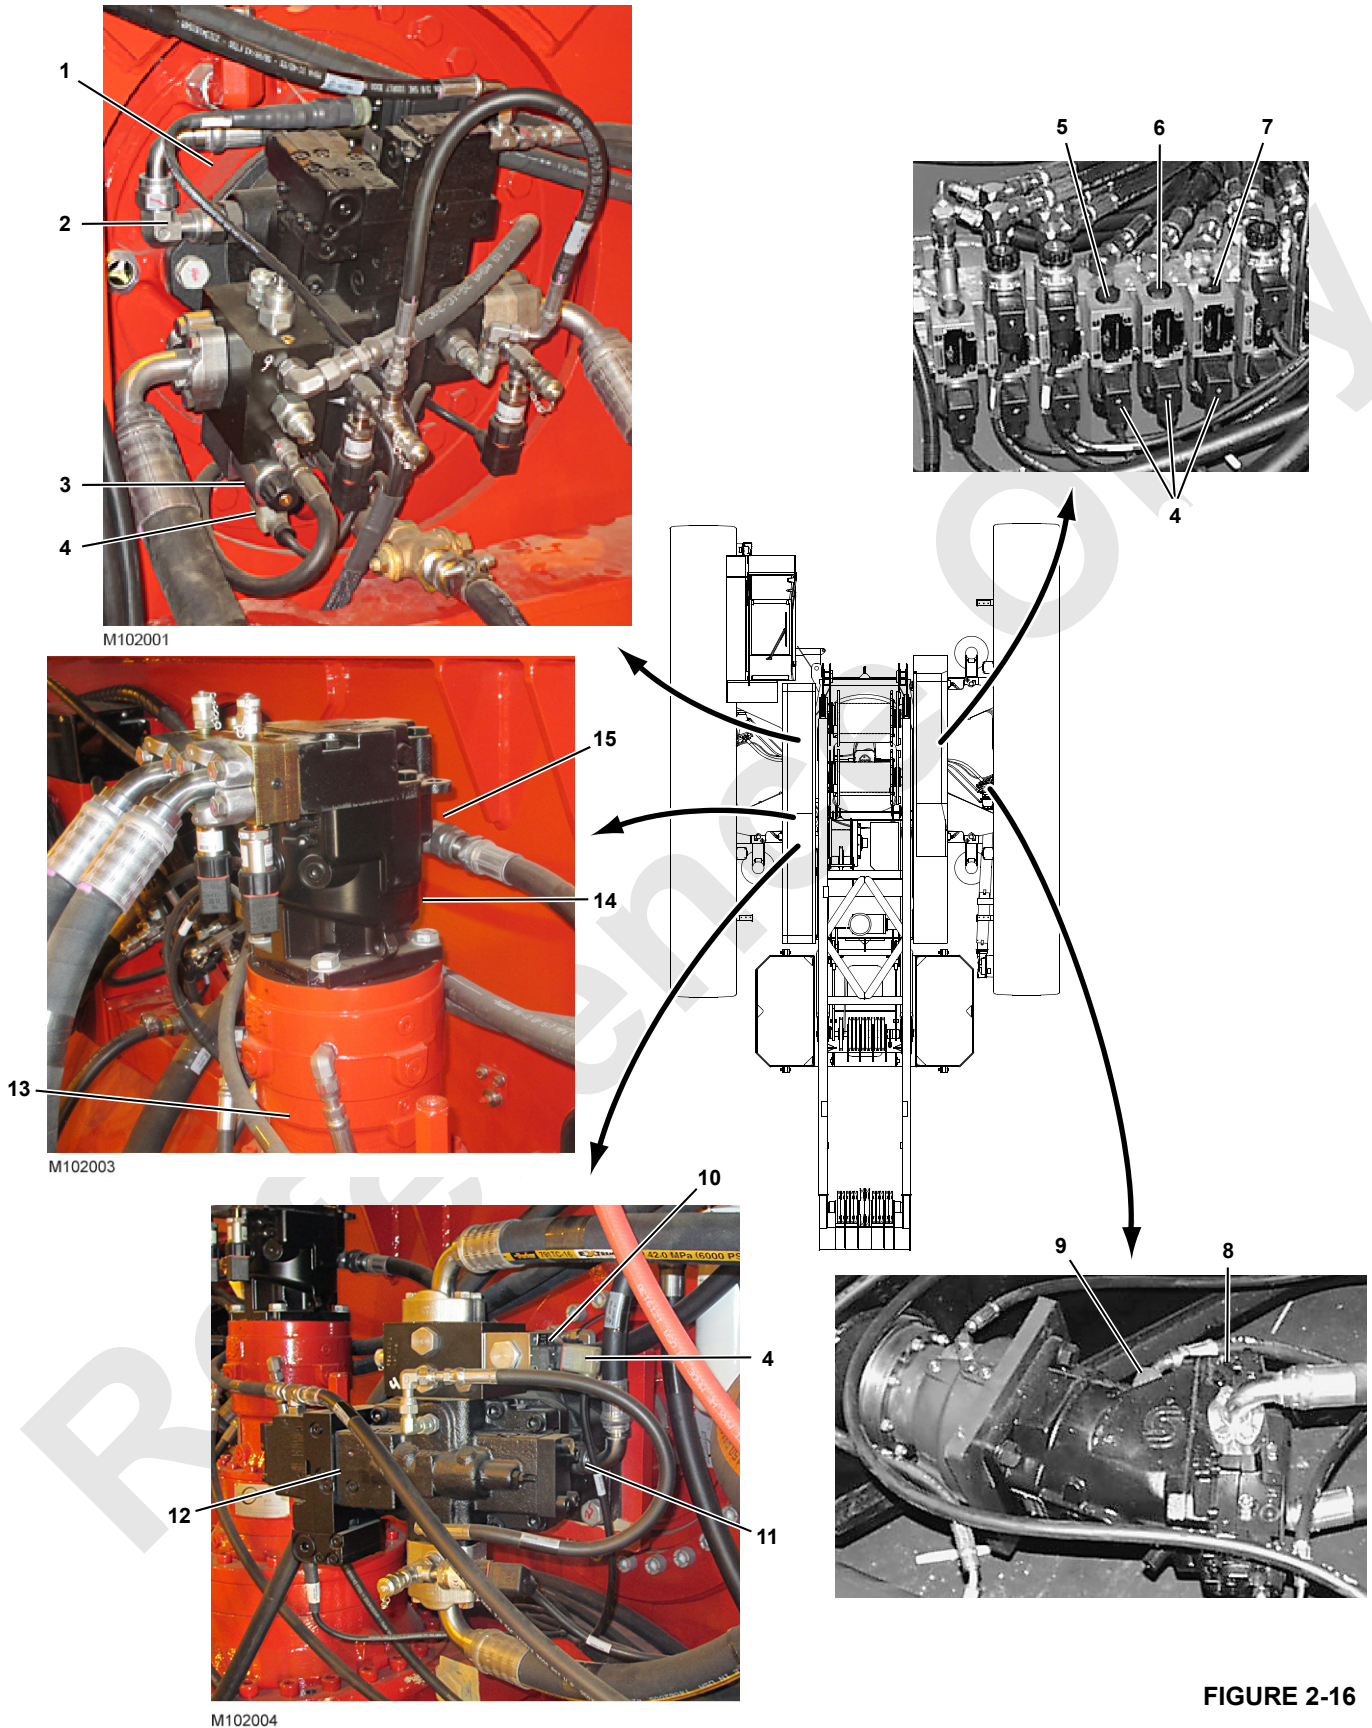

FIGURE 2-16
Legend for Figure 2-16
There is no physical way to check the disc brakes for travel, boom hoist, front and rear drums, and swing; therefore, an operational test of each brake must be performed weekly. Figure 2-16 shows brake and brake solenoid valve locations.
2. Fill all motor cases with oil (Figure 2-16).